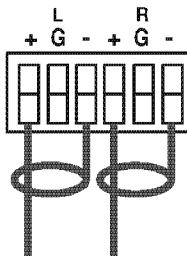

Figure 6: Connecting an Unbalanced Source to the Balanced Input
- An unbalanced source to the balanced input on the **VS-88HCB** (see Figure 6)
Figure 6 illustrates how to connect an unbalanced source to the balanced input on the **VS-88HCB**: